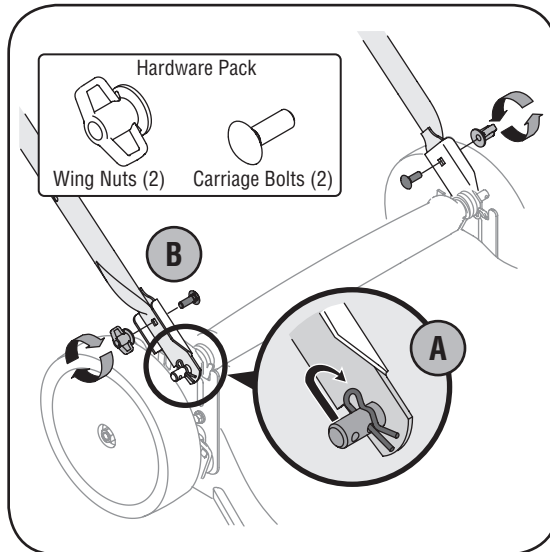

Figure 3-2: Secure handle to handle mounting brackets.
2. Follow these steps to secure the handle. See Figure 3-2.